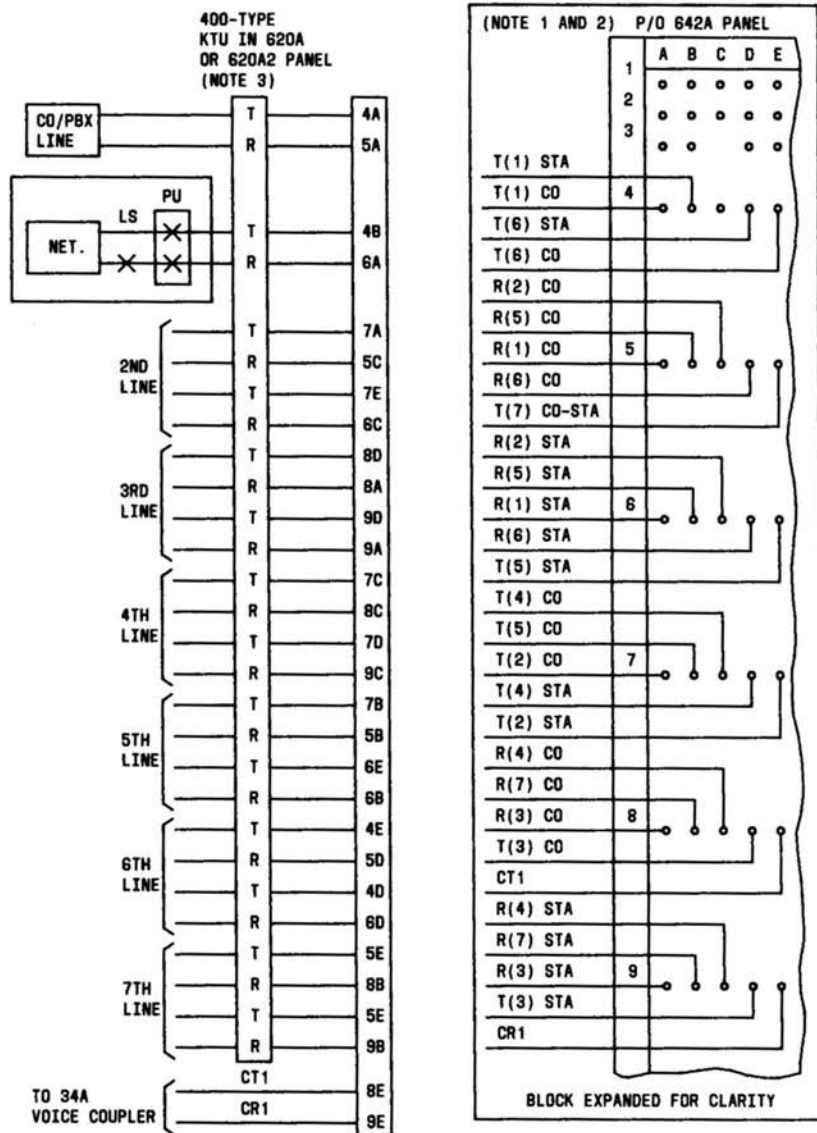

Fig. 48—451B KTU Connections (Music-On-Hold) in 642A Modular Panel
**N. 451B or 498A KTU—Music-On-Hold Circuit (Fig. 48 or 50)**